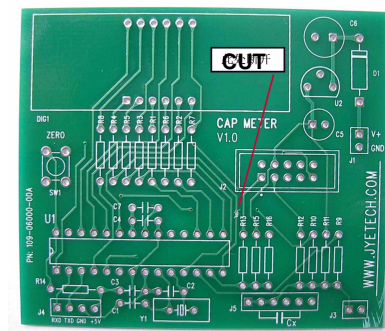
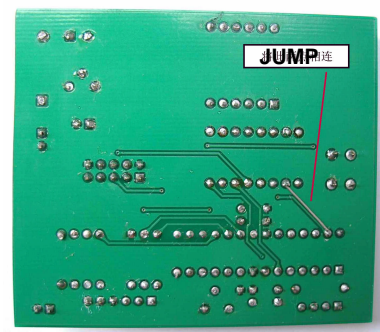

Fig. 1
Fig. 2
It is straightforward to assemble the cap meter. First, install all parts included in the kit onto the PCB following schematic and labels. After soldering make two modifications as shown in Fig 1 and Fig 2.
- 1) Cut the trace between pin 14 of U1 and R4 (Fig. 1).
- 2) Connect pin 27 of U1 with R4 (Fig. 2).